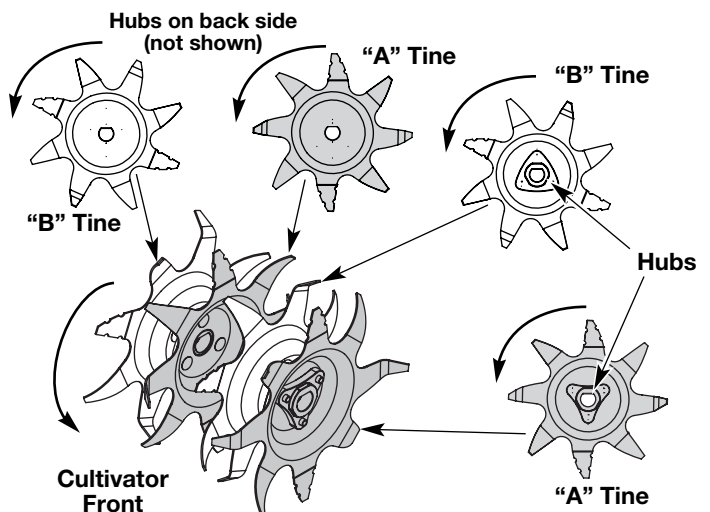

Fig. 12
- When you are reinstalling tines, lay out the tines and compare them to those shown in Figure 12. Note specifics about each tine: its hub, curvature and lettering ("A" or "B"). This will help make sure that you are placing the correct tines in the correct order.
NOTE: If you look closely, you can see a slight curvature in the tine tips. These curves should point toward the front of the cultivator when the tines are installed. Figure 12 shows the curve in each tine.